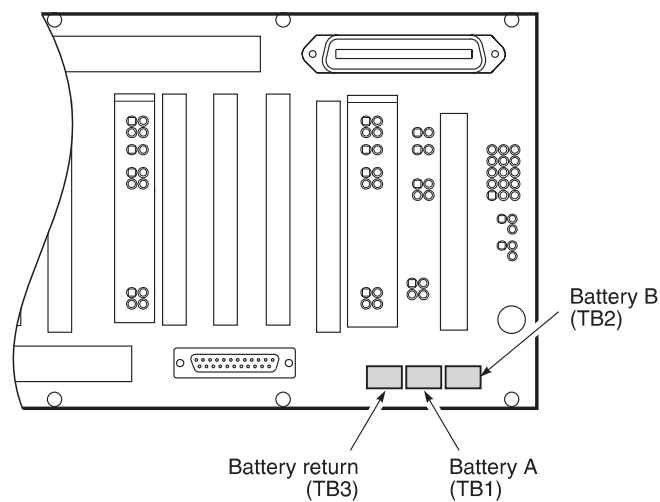

Figure 5. Connecting the CO Battery
- 4** Connect the battery as follows (Figure 5):